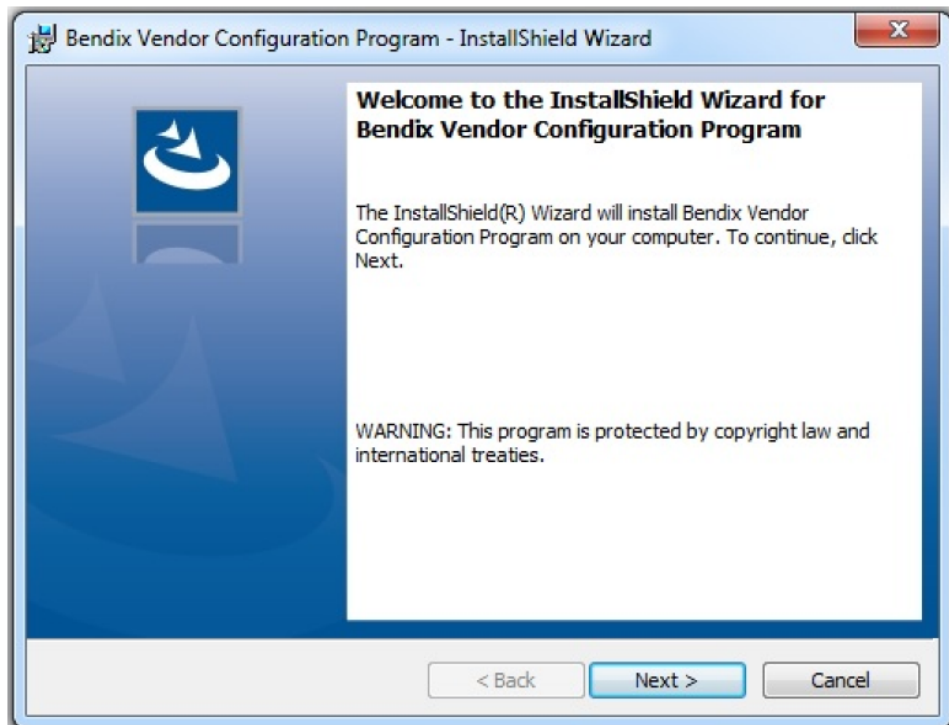

Figure 3
2. When the component installation finishes, the installation will continue. Click '**Next**' to proceed. [see figure 3]